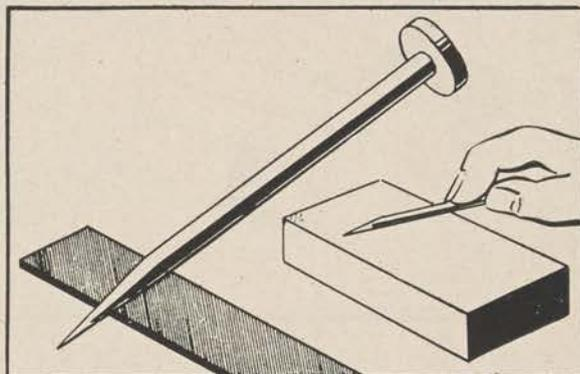

Figure 4.
b. An awl or scriber for use on leather, wood, or metal can also be filed from a nail (fig. 4). Use a carborundum stone to sharpen the point.